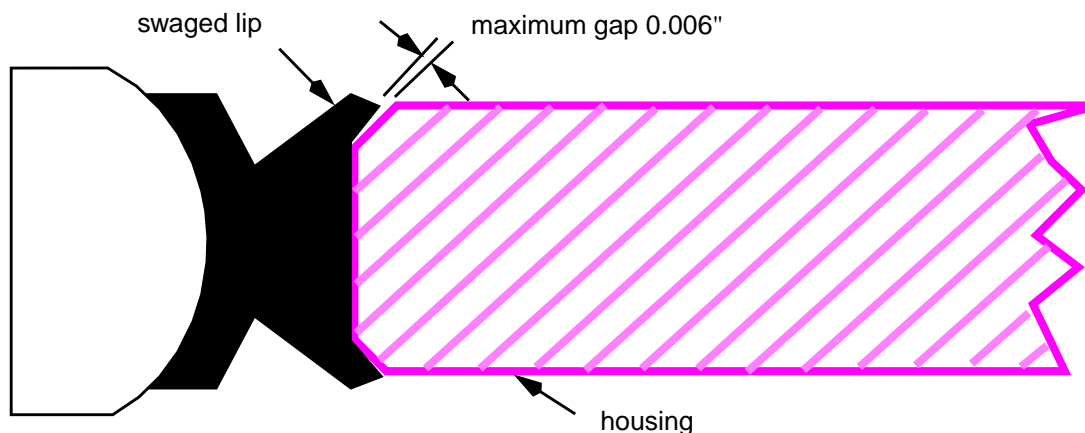

Figure 5 - Maximum Edge Gap
- Step 5. Holding the part squarely on the support tool, begin rotating the upper swage tool and bring it into contact with the bearing. Gradually apply pressure until the edge gap meets the requirements specified in Figure 5. When roller swaging bearings, take care to avoid damaging the bearing or bearing housing by over-pressing or improperly aligning the tools.
- 6.2.1 Use a feeler gauge to measure the distance between the housing chamfer and the swaged lip on all swaged bearings (see Figure 5). The maximum acceptable edge gap is 0.006". Remember to check both sides of MS bearings.